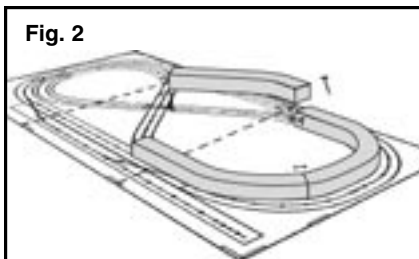

Fig. 2
- A. Place the first tier of Risers by centering them over the preprinted track plan. They will cover the entire track plan without breaks. **You may begin anywhere on the track plan** (Fig. 2).